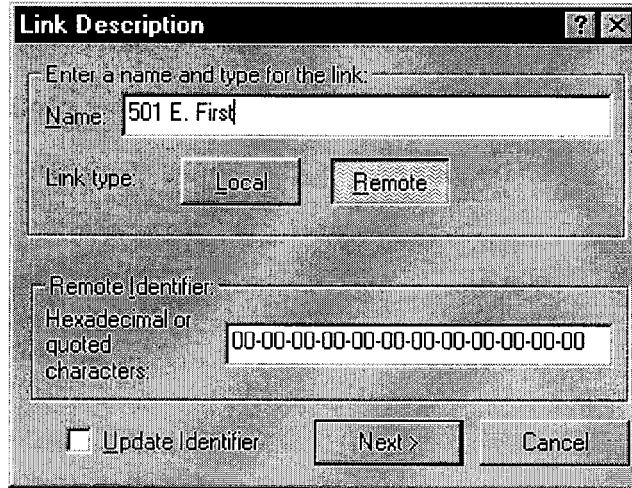

Figure 11.7 Link Description Wizard
7. From SLTALink Manager, use the Link.New... command to define the remote connection description. See figures 11.7 through 11.9.